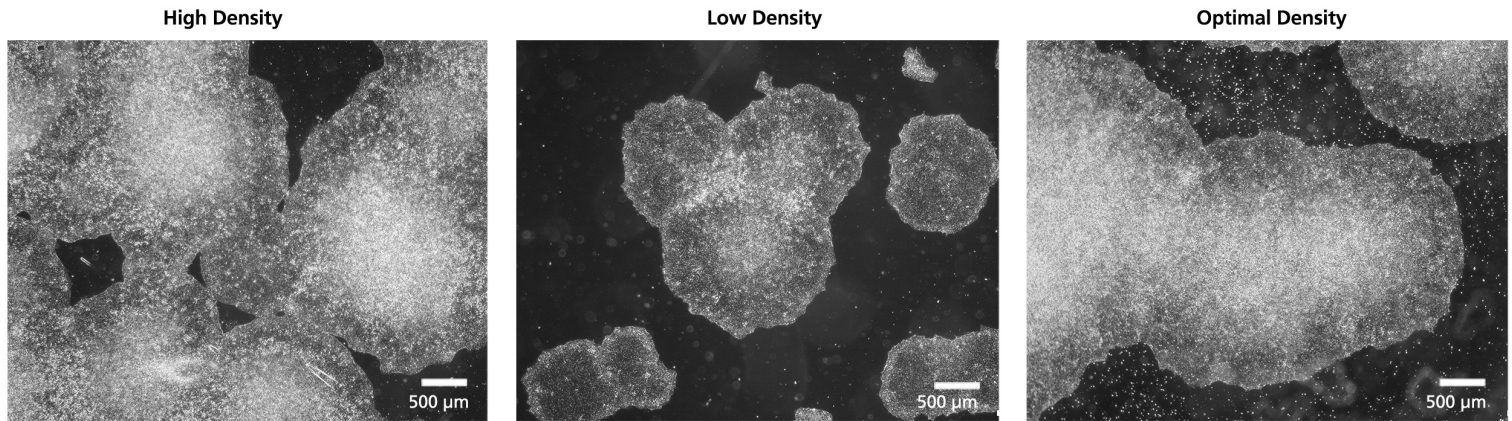

Figure 2. Representative PD hiPSCs Demonstrate Varying Colony Densities When Seeded at a Range of Starting Concentrations.
- On Day 6 - 8, select the well with optimal hiPSC colony density for passaging (Figure 2). The culture should consist of healthy hiPSC colonies that are medium to large, compact, and have centers that are dense compared to their edges.